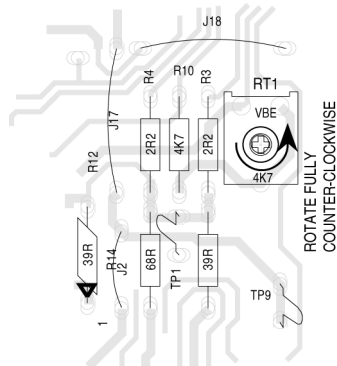

Figure 2
- Rotate the trim pot RT1 fully counter - clockwise as in figure 2. Inspect and replace any resistors that look burnt. Measure all of the resistor values coloured YELLOW on the assembly drawing. The value that you measure may not be exactly what is shown on the assembly drawing but if the resistor doesn't look damaged it should measure within + or - 5% of the printed value.